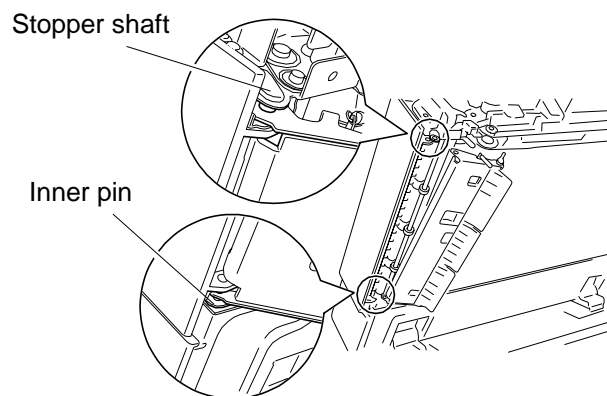

Fig. 14
- 14) Fit the flapper assembly and the upper cover in that order onto the inner pin, and then fit the stopper shaft. (Fig. 14)